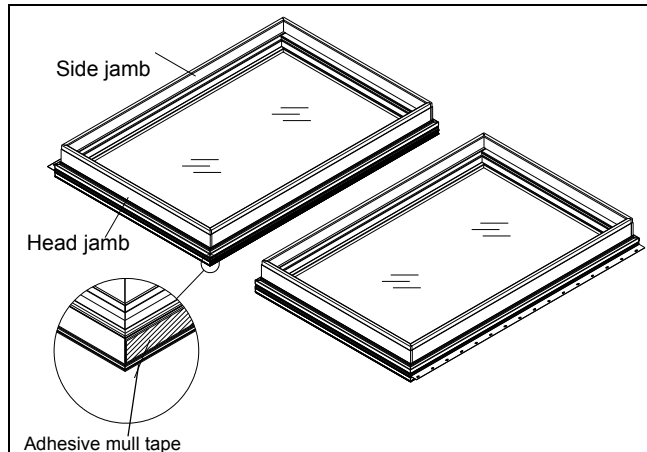

Figure 23
1. Lay the lower casement frames on a flat surface in the desired mulling configuration (interior facing up). Remove nailing fin and drip cap from head jambs and side jambs that will be mulled together. Apply mull sealing tape the full length of the jamb ensuring that it is located 1/4" (6) from the exterior edge of the Ultrex frame as shown in figure 23.